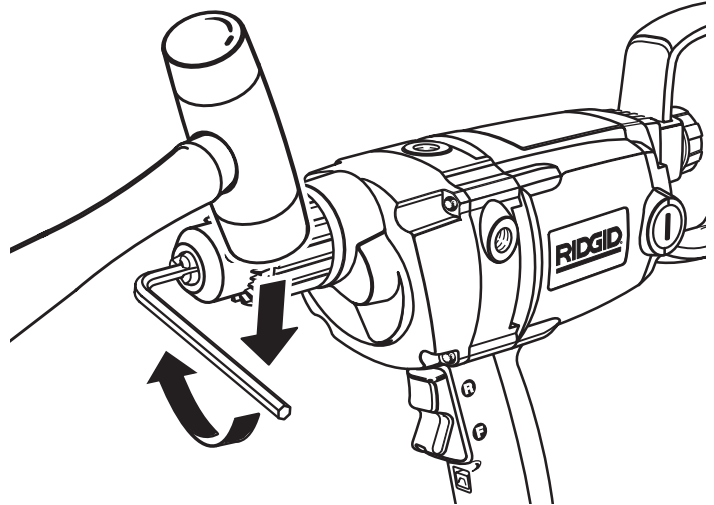

Fig. 10
See Figure 10, 11, and 12.
- Tap the hex key wrench sharply with a mallet in a clockwise direction. See Figure 10. This will loosen the screw in the chuck for easy removal.
See Figure 10.
- Insert the hex key wrench into the chuck and tighten the chuck jaws securely. Tap the hex key sharply with a mallet in a clockwise direction. See Figure 10. This will tighten the chuck on the spindle.